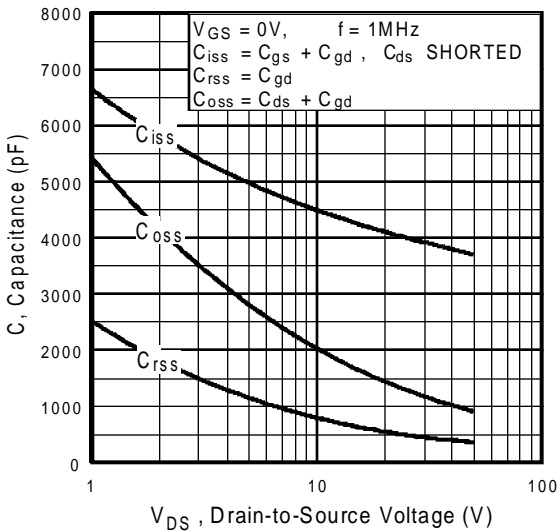

Fig 5. Typical Capacitance Vs. Drain-to-Source Voltage
| C_{rss} | Reverse Transfer Capacitance | — | 480 | — | | $f = 1.0\text{MHz}$, See Fig. 5 ⑤ |